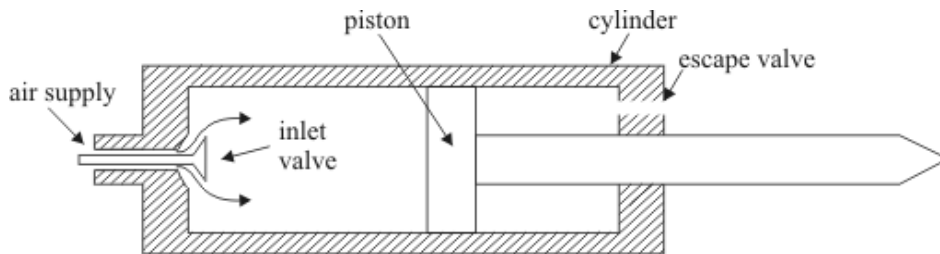
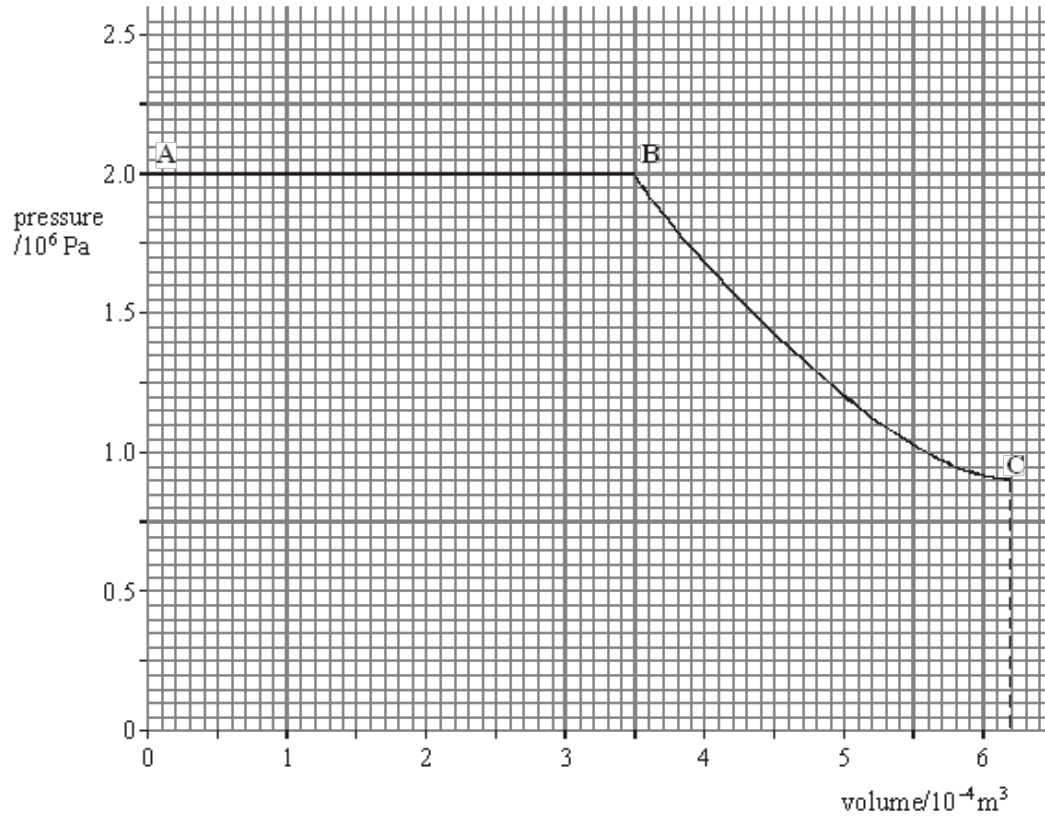

Figure 1
Figure 2
Q12. In the pneumatic tool shown in **Figure 1**, preheated air enters the cylinder via the inlet valve at a pressure of 2.0×10^6 Pa and a temperature of 77°C . The pressure and temperature remain constant while the inlet valve is open, and the piston is forced down the cylinder. When the volume of air contained in the cylinder between the inlet valve and the piston is 3.5×10^{-4} m³ the inlet valve closes and the air expands to a final volume of 6.2×10^{-4} m³. **Figure 2** shows the p - V diagram for this stroke of the piston. Details of the return stroke are not needed in this question.
- (a) Using the values of pressure and volume from **Figure 2**, show that the expansion of the air between points **B** and **C** is approximately adiabatic.
- (c) Calculate the temperature of the air at the end of the outward stroke, corresponding to the point marked **C** in **Figure 2**.
- (d) Calculate the total work done by the air during the outward stroke of the piston, between points **A** and **C** in **Figure 2**.